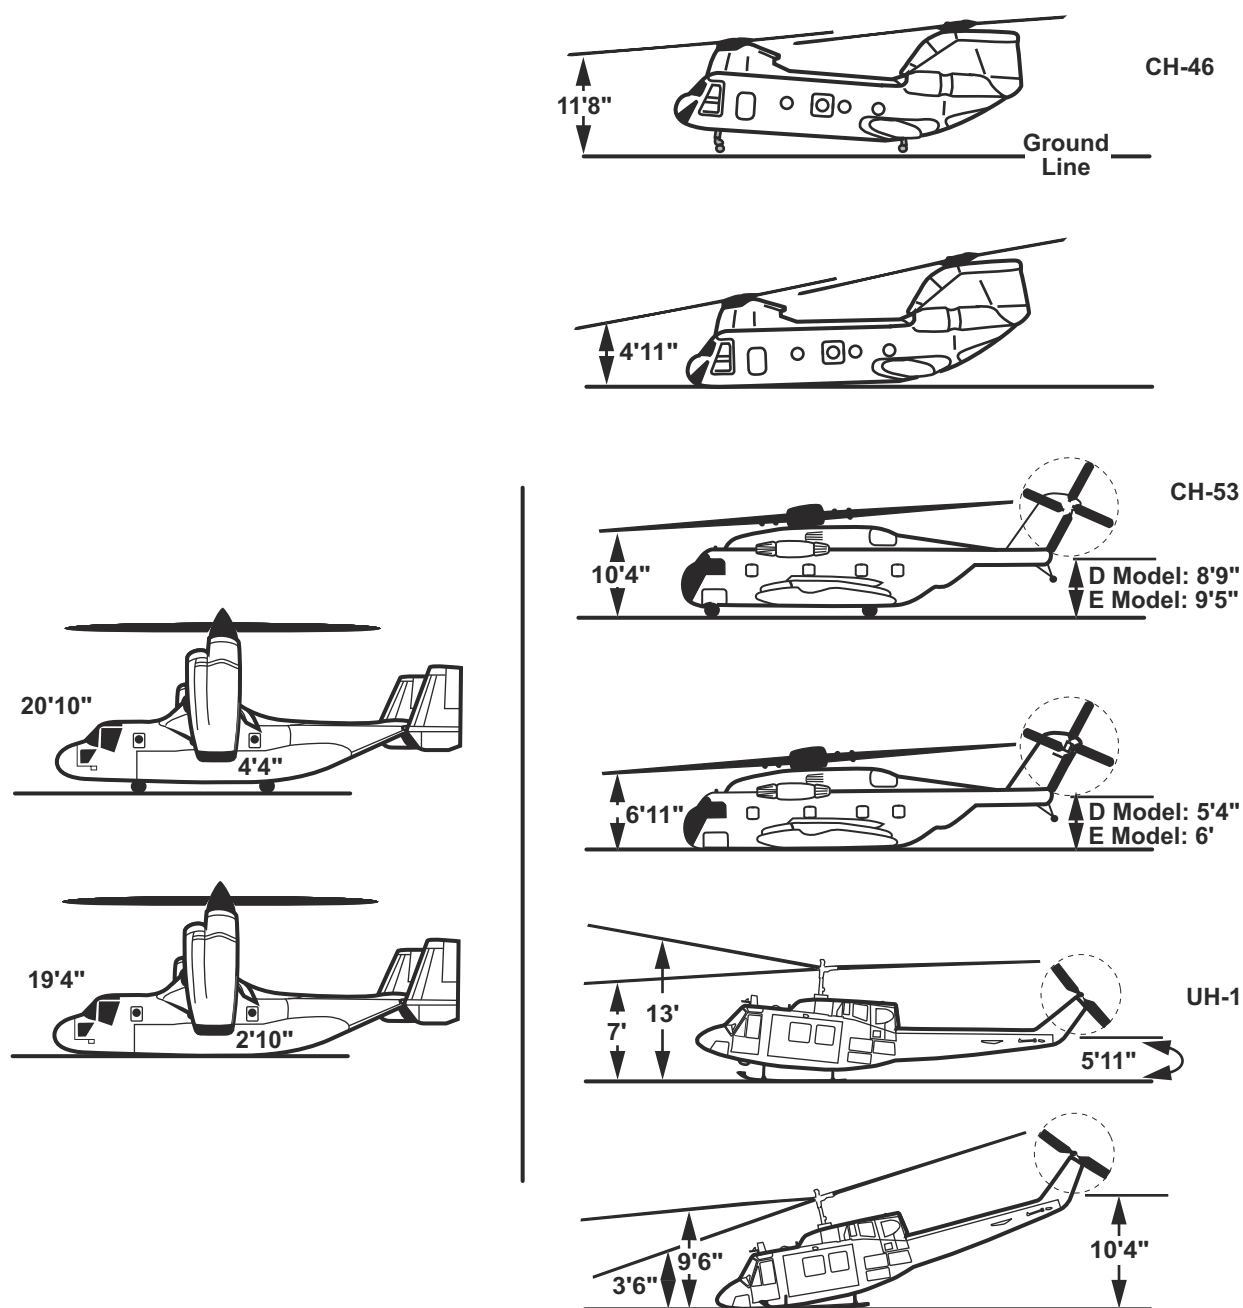

Figure 12-1. Rotor Clearance for Marine Corps Aircraft.
- *Rotor blade hazards.* In deep snow-covered LZs, the helicopter may sink into the snow, reducing the rotor-blades-to-surface clearance. Use of the ahkio huddle for loading and unloading reduces the danger of being struck by the rotor blades. In sloping LZs, the helicopter should not be approached from the upslope side as rotor-blades-to-surface clearance is further reduced. Extreme caution must be exercised when operating in close proximity to the tail rotor. Refer to figure 12-1 for rotor blade clearances.